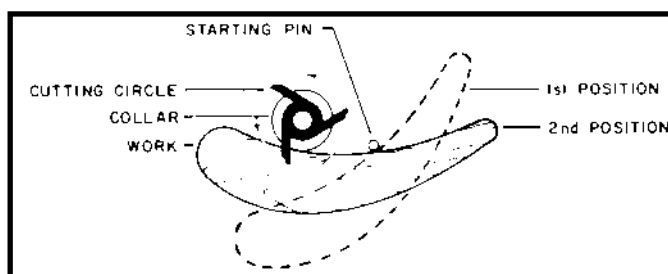
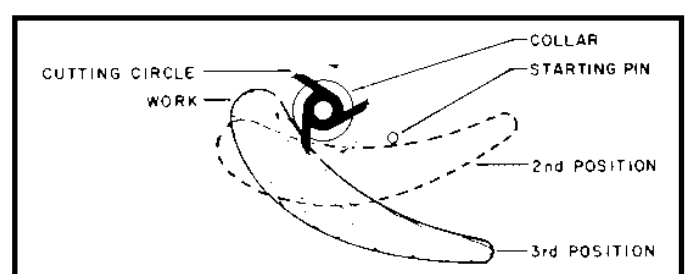

Fig. 74
Fig. 75
2. Place the work in the first position using the guide pin as a support (Fig. 74). Swing the work into the second position (Fig. 75). The work will be supported by the collar and starting pin (Fig. 75).
3. After the cut has started, swing the work free of the starting pin and let it ride only against the collar (third position, Fig. 75). **ALWAYS FEED THE WORKPIECE AGAINST THE ROTATION OF THE CUTTER.**